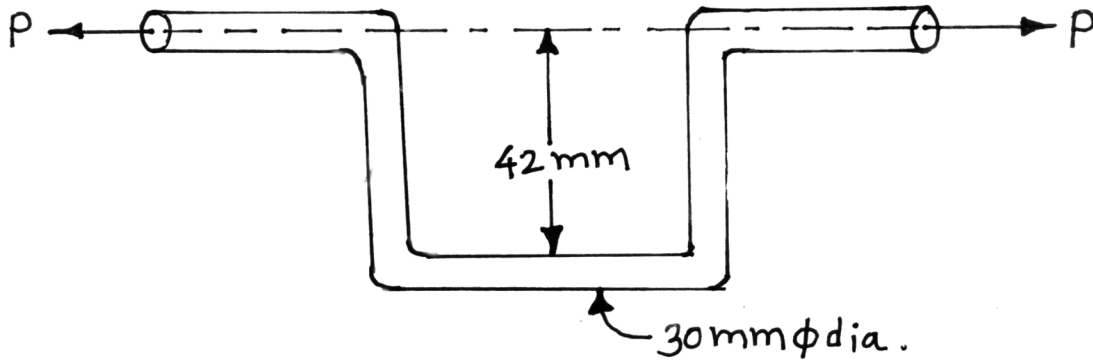

Figure No. 2.
- d) A 30 mm diameter rod is bent up to form an offset link as shown in Figure No. 2. If permissible tensile stress is  $90 \text{ N/mm}^2$ , calculate maximum value of 'P'.